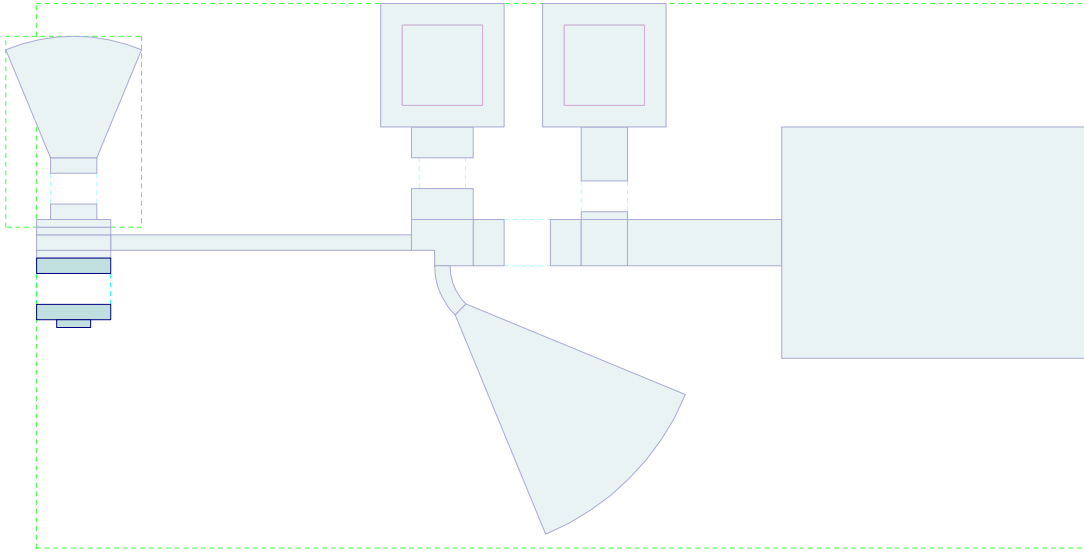

Figure 10: Collector bias circuit.
34. Tune the line lengths for the collector load network, to ensure the collector is presented with the appropriate impedance. Go to the layout window and snap your components together. It should appear something like that shown in Figure 10.